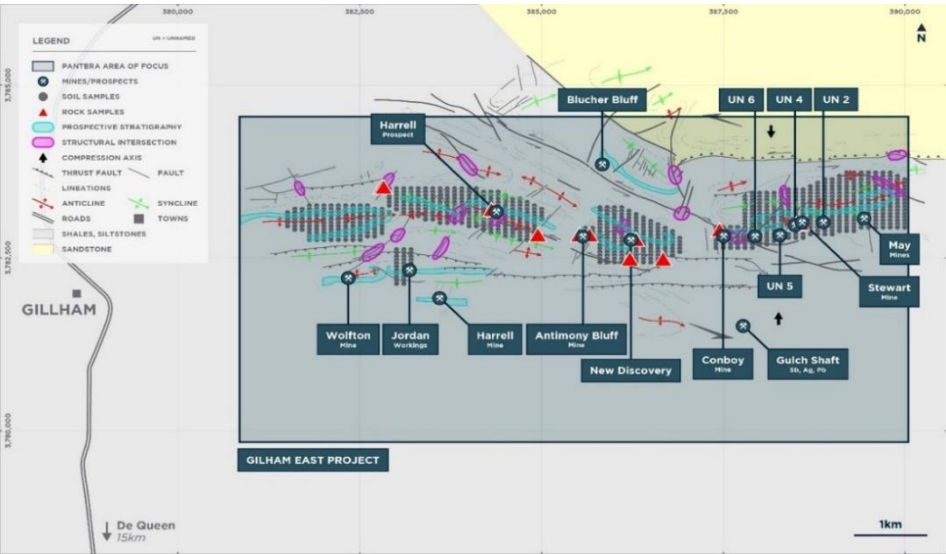

Figure 1 Rock and Soil sampling locations - East Gilham Project
- ✔ Systematic sampling and mapping of priority target corridors, including a 5km-long structural zone hosting the historic Davis silver-base metal mine have now been sampled and mapped (Figures 1 & 2).
Pantera Minerals Limited (“Pantera” or the “Company”) (ASX: PFE) (OTCQB: PTMLF) is pleased to announce the completion of the first modern rock and soil sampling program at the Gillham Silver-Antimony Project, covering ~5,000 acres in southwest Arkansas (Figure 1 & 2).